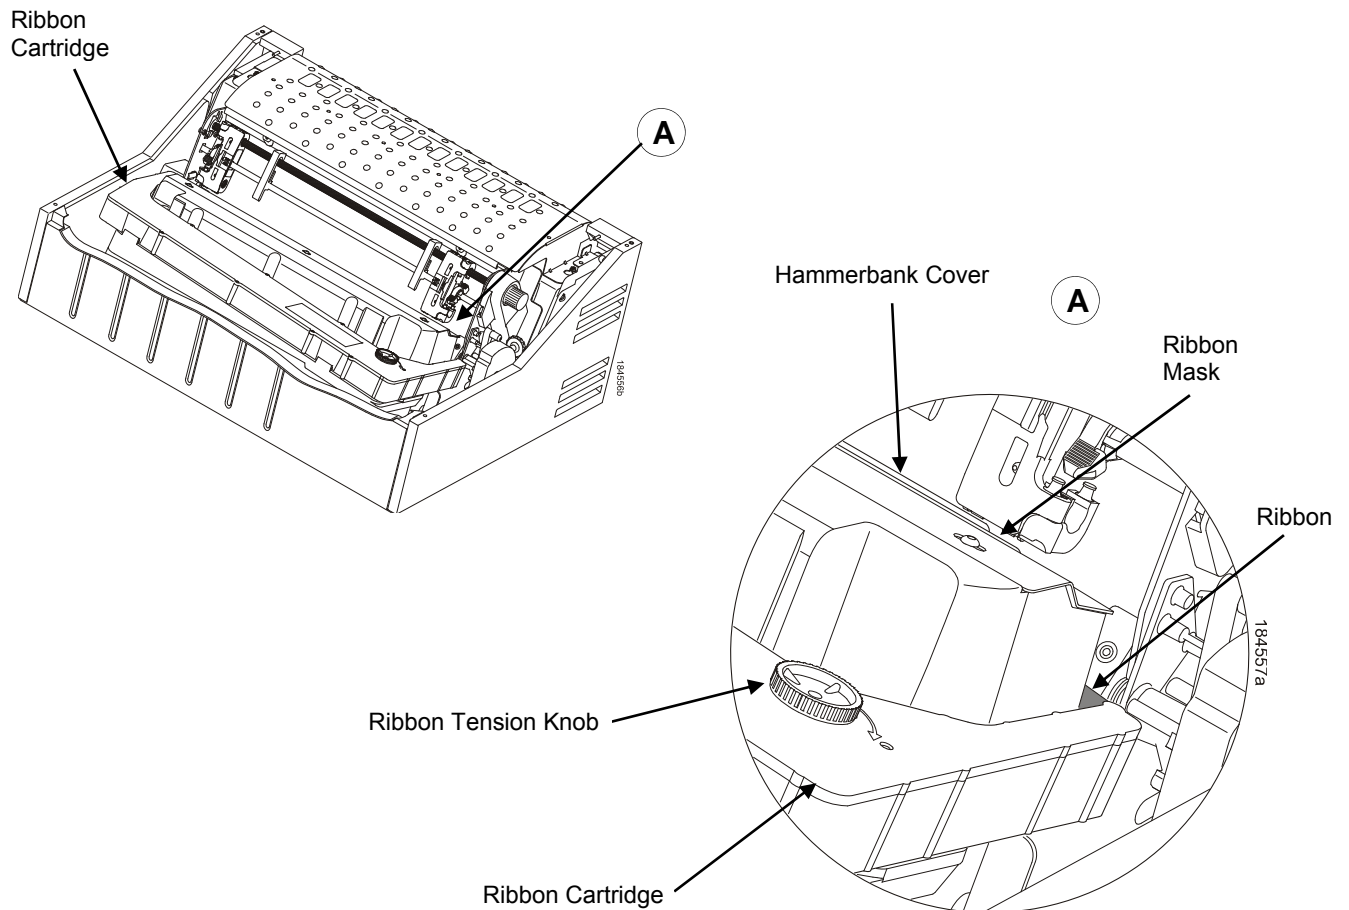

Figure 19 The Ribbon Cartridge Snapped in Place
7. Rock the cartridge downward, making sure that the ribbon goes between the guide and the mask (see Figure 19). You will feel it snap into place.